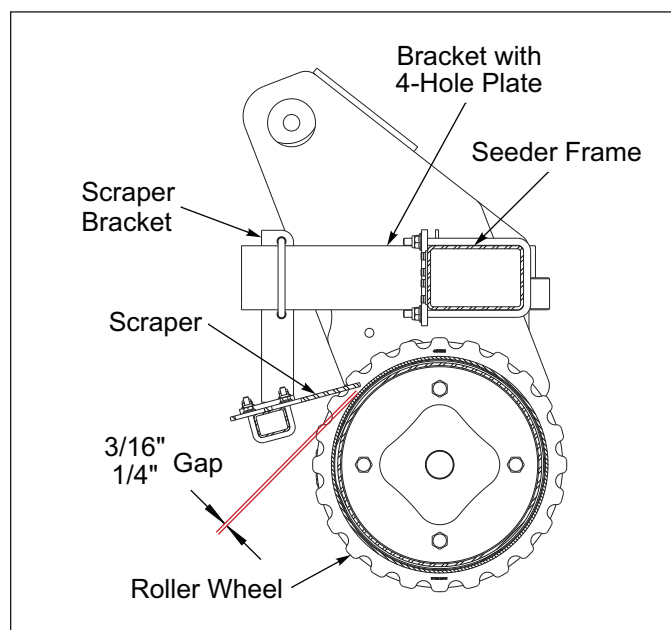

Figure 5-11: Scraper Dimensions
4. Adjust the Scrapers as needed to achieve a 3/16" to 1/4" gap between the Scrapers and Roller Wheels. **See Figure 5-11.** Scrapers should be close enough to the Roller Wheels to be functional but without interference.